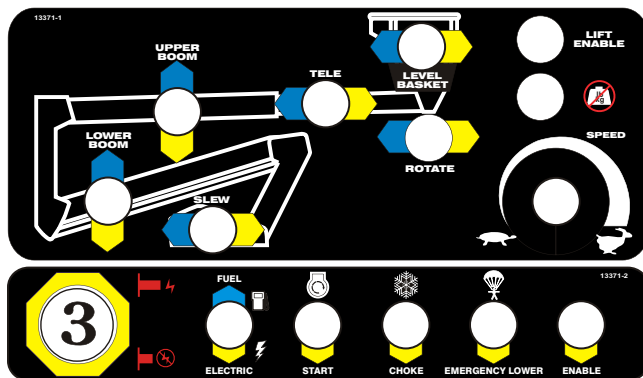

Figure 9.2 - Platform Control Box
3. Set the **Emergency Stop** switch ❸ to ON (see Figure 9.2).